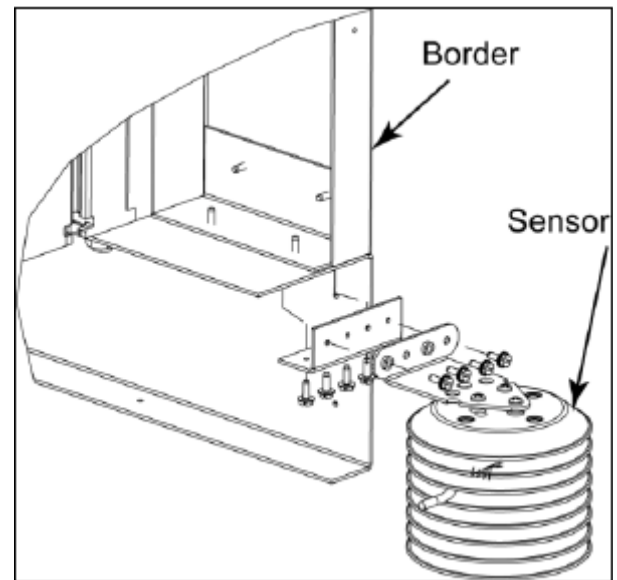

Figure 7: Photocell Installation
- c. Attach the photocell with the $\frac{1}{2}$ " shroud bolts. Refer to **Figure 7**.